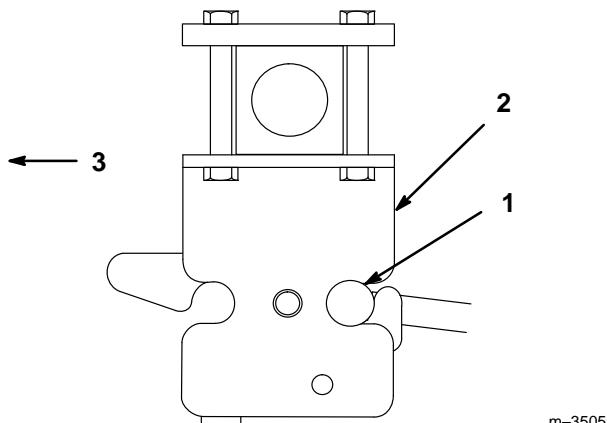

Figure 11
- Open the latches on the rear Attach-A-Matic™. Place the smaller bar of the jack shaft assembly into the slots on the front of the rear Attach-A-Matic™ (Fig. 11).